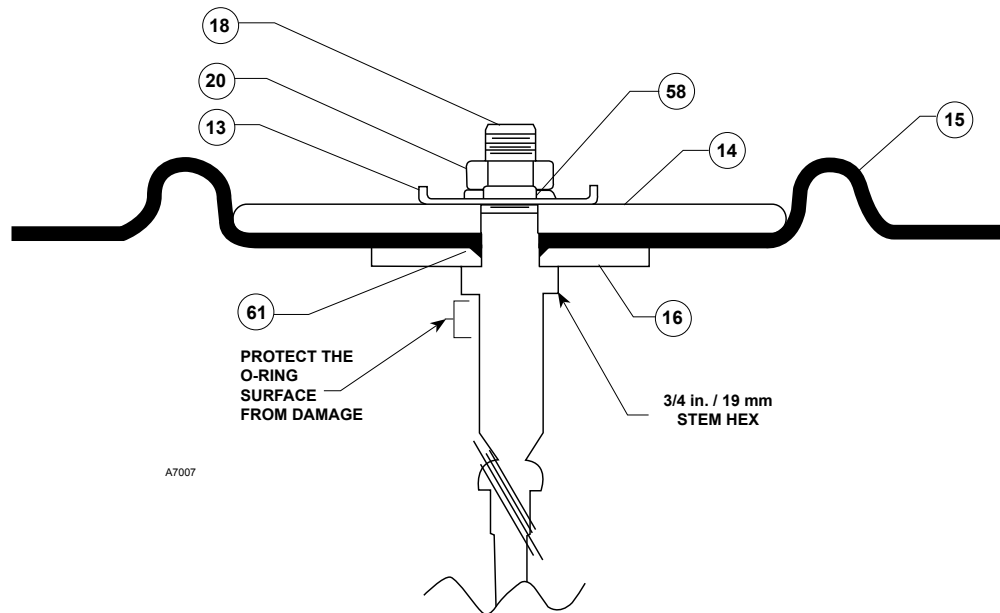
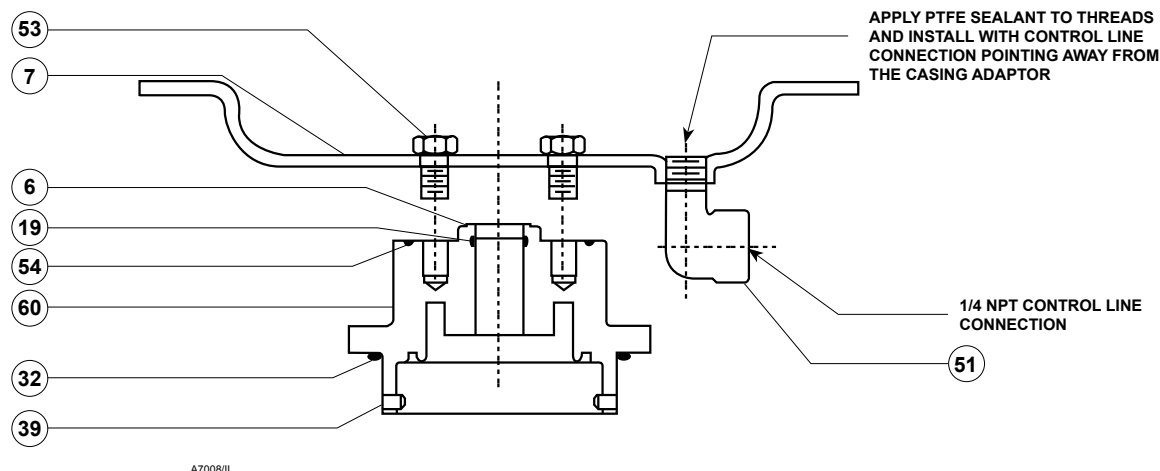
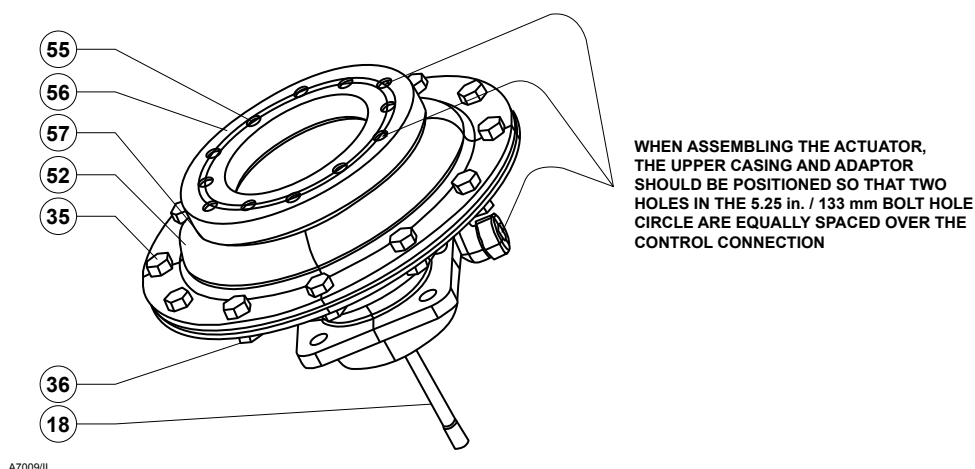

Figure 7. Stem and Diaphragm Assembly
Figure 8. Lower Casing and Casing Adaptor Assembly
Figure 9. Diaphragm Casing Assembly
Do not loosen the diaphragm casing cap screws (Figure 9, keys 35 and 36) when the control spring (key 12) has spring force applied to it. Release the spring compression as described in step 6.
This section includes instructions for disassembly and replacement of parts for the Type 133HP. All key numbers refer to Figures 7, 8, 9 and 14, except where indicated.
All key numbers refer to Figures 7, 8, 9 and 14, except where indicated.
1. With the Type 133HP completely disassembled, start the reassembly by applying Multi-Purpose PTFE lubricant or an equivalent to the stem threads (key 18) and diaphragm washer O-ring (key 61). Place the sealing diaphragm plate (key 16) on the stem followed by the O-ring (key 61), diaphragm (key 15), diaphragm plate (key 14), spring seat (key 13), lock washer (key 58) and hex nut (key 20) as shown in Figure 7. To prevent diaphragm damage, torque the hex nut (key 20) to 25 to 30 ft-lbs / 34 to 41 N•m, while using 3/4 in. / 19 mm wrench flats on the stem.
2. If the street elbow (key 51) was removed, it must be reassembled before mounting the casing adaptor (key 60). Apply PTFE sealant or equivalent around the external threads of the street elbow and tighten to a torque of 20 to 35 ft-lbs / 27 to 47 N•m. Position the control line connection (street elbow) so that it points away from the casing adaptor.
3. Lubricate the O-rings (keys 19, 32 and 54) and install as shown in Figure 8. Install the casing adaptor (key 60) to the lower casing (key 7) and tighten the cap screws (key 53) to 20 to 30 ft-lbs / 27 to 41 N•m of torque.
4. Insert the stem bearing (key 6) and carefully insert the stem (key 18) into the lower casing (key 7) and casing adaptor (key 60) assembly.
5. Assemble the upper diaphragm casing (key 52), mounting plate adaptor (key 56) and mounting plate gasket (key 57) as shown in Figure 9. Tighten the cap screws (key 55) to 20 to 30 ft-lbs / 27 to 41 N•m of torque.